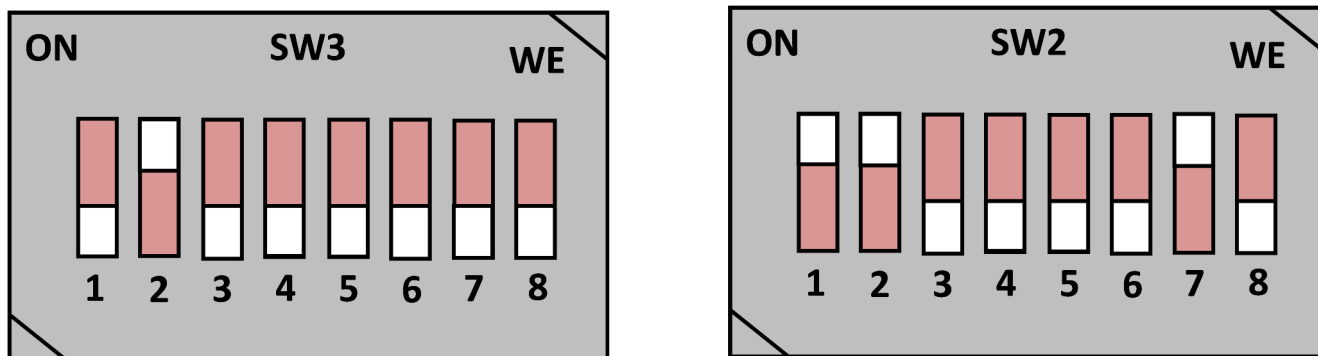

Figure 2-10. Example Boot Mode (SD Boot)
1. Place the SKEVM boot switch selectors (SW2, SW3) into selected boot mode. Example boot-mode for SD card is shown in Figure 2-10.